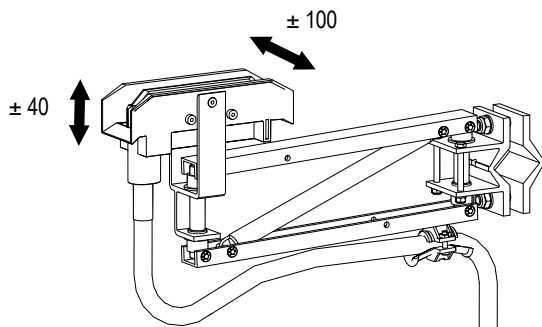
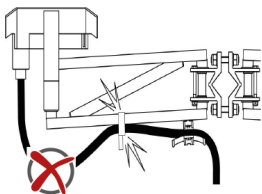
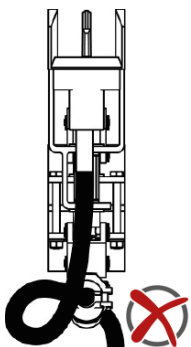

Fig. 109: Deviation of the current collector in mounted position with nominal mounting dimension 125 mm
Fig. 113: Do not fix the connecting cable to the joint of the current collector with a cable tie
Fig. 115: Do not twist the connecting cable
- Lead the connecting cables straightly and with high flexibility in order to avoid deflection, pulling or pressing on the sliding contacts or movement restrictions of the current collector (see Fig. 109 to Fig. 113).
- Pay attention to the selection of the connecting cable and to a correct and tension-free laying of the connecting cables (see Fig. 109 to Fig. 115).